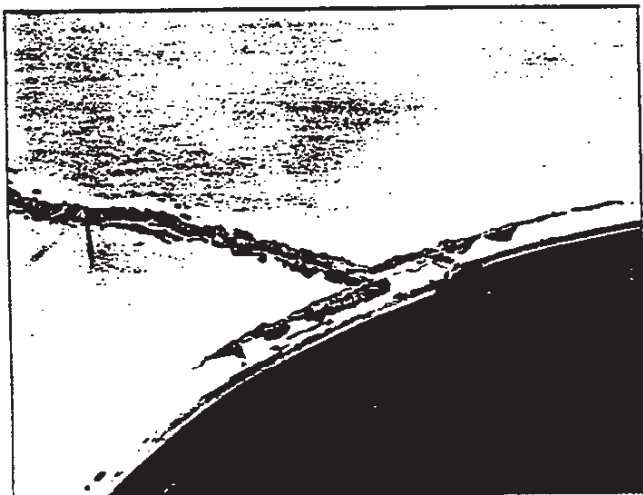

Fig. 63—Typical Cracked Panel
1. In the case of a cracked panel, such as shown in Figure 63, cut along the break line with a hacksaw blade and remove broken portion of the panel.